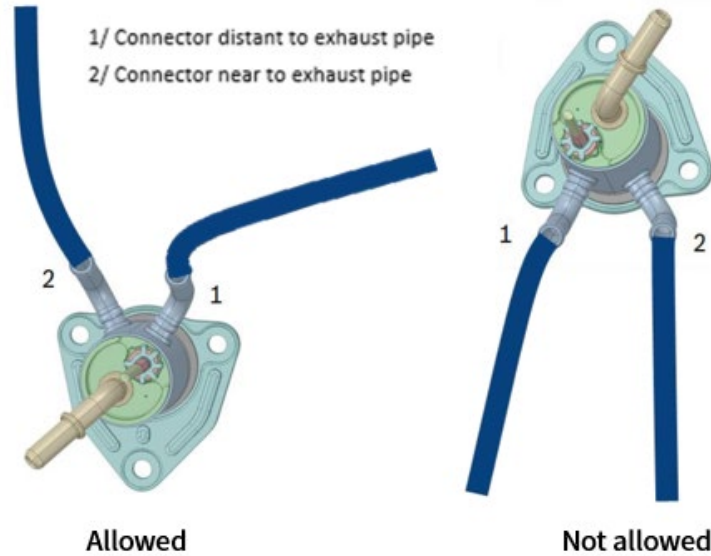

Figure 7-25. Dosing module coolant hose
- The DM coolant connector has to be installed as to avoid drainage. The coolant hose should be capable of holding a coolant volume that is greater than 250cc, when facing upwards, as shown in Figure 7-25.